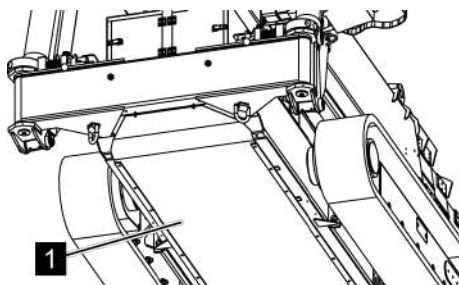

Fig. 170: Fastening the bottom plate
9. ➔ Screw the bottom plate (Fig. 170/1) tight.